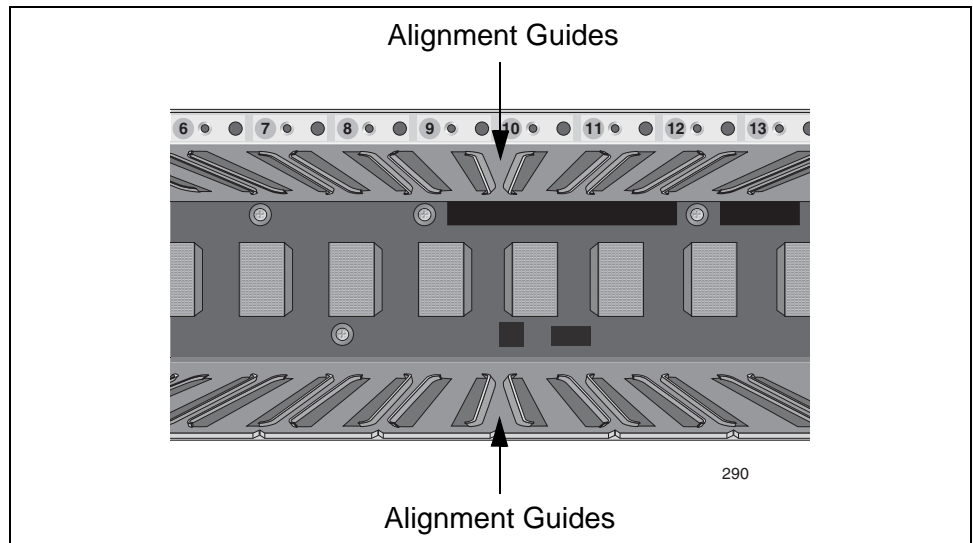

Figure 20. Alignment Guides
3. Align the line card with the top and bottom alignment guides for the slot (Figure 20 on page 49).